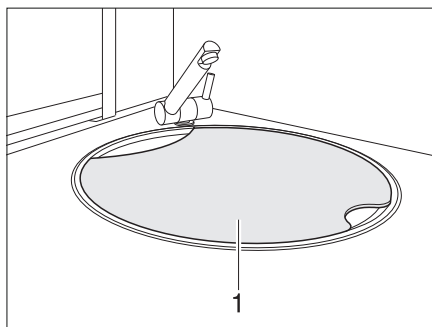

Fig. 11 Sink cover
- In case of an accident or emergency braking the sink cover (Fig. 11,1) can injure the vehicle passengers. Before the journey, take the sink cover off the sink and store it securely in the kitchen block or wardrobe.